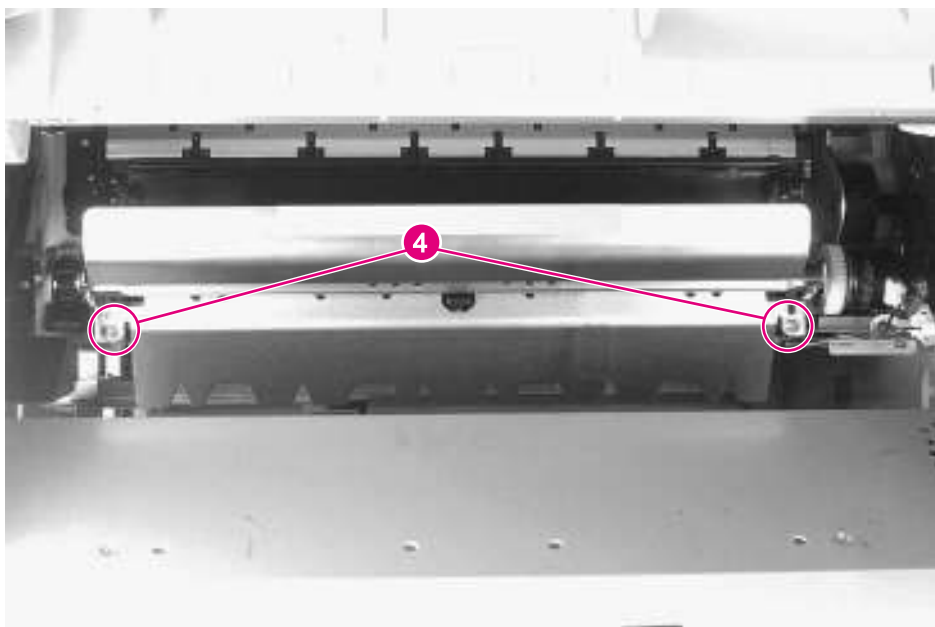

Figure 6-55 **Registration Assembly (3 of 3)**
- 6 Lift the registration guide and remove 2 screws at the front of the assembly (figure 6-55, callout 4).